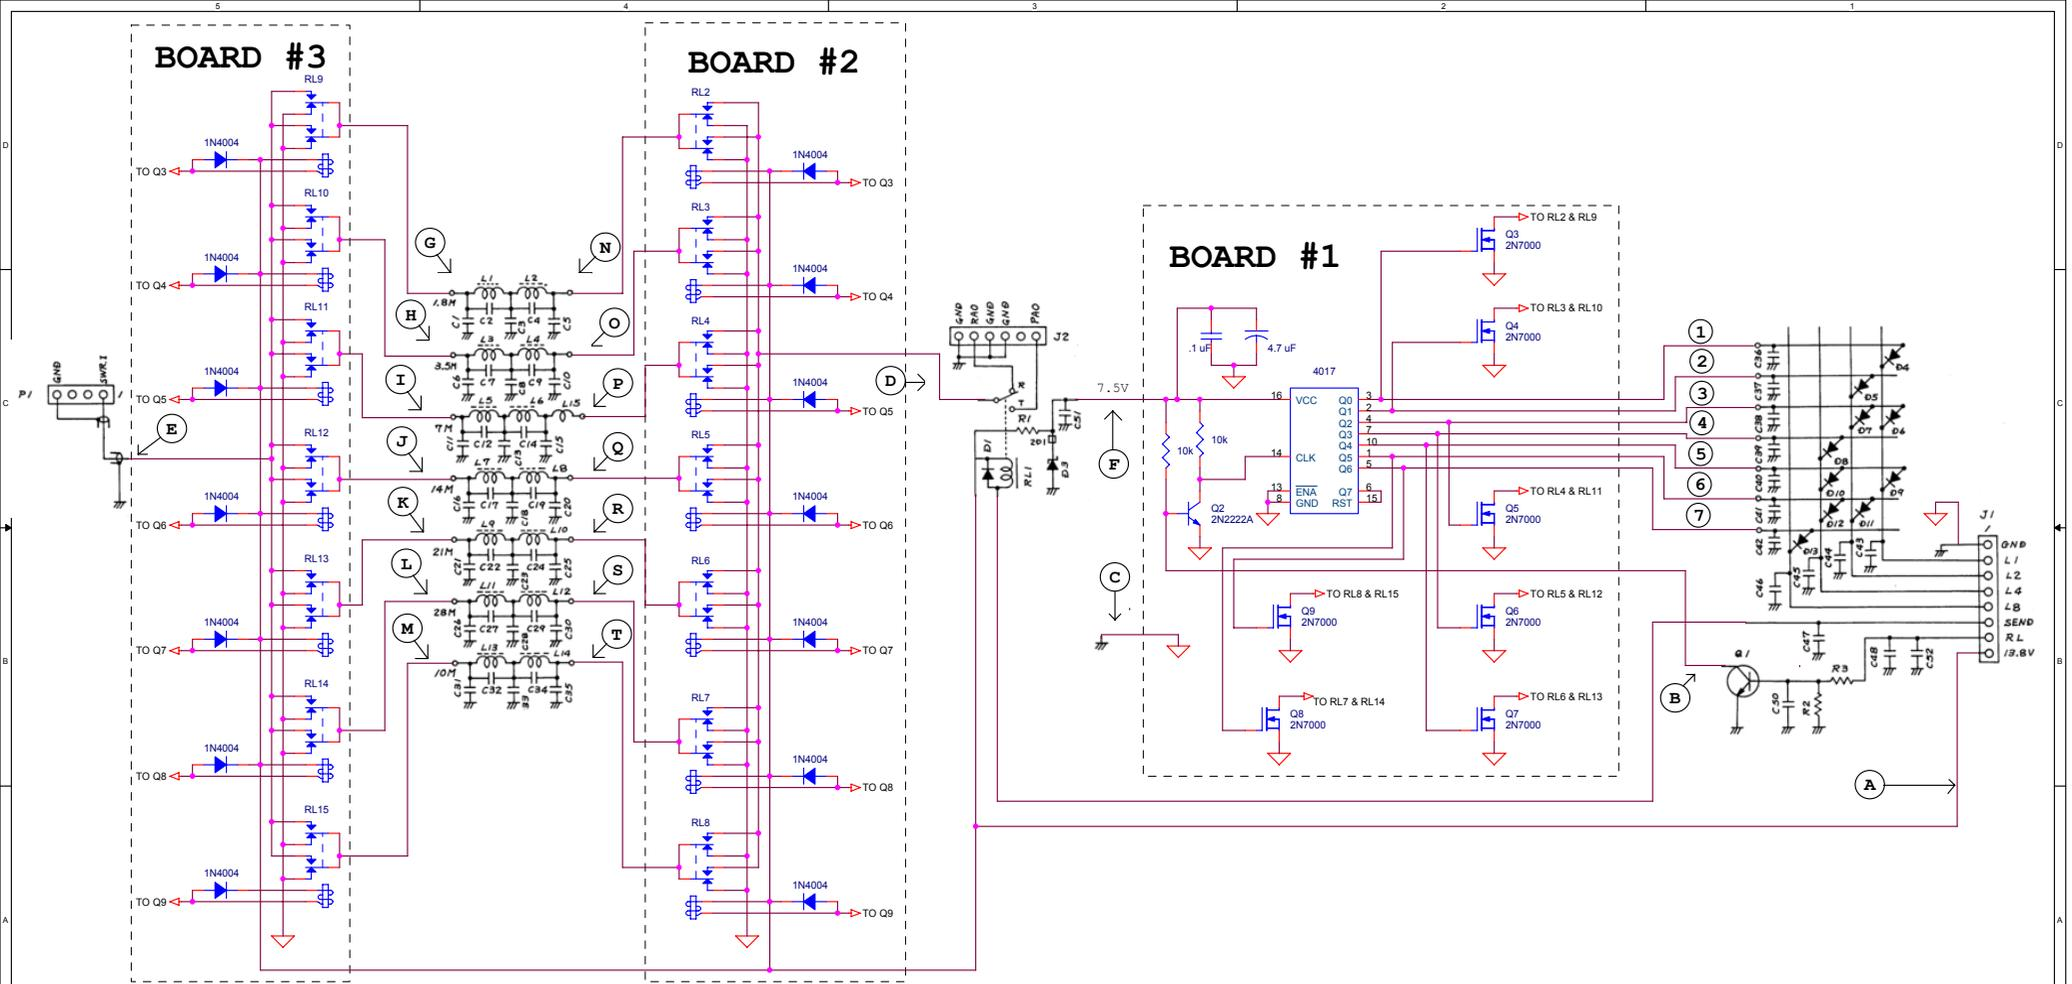
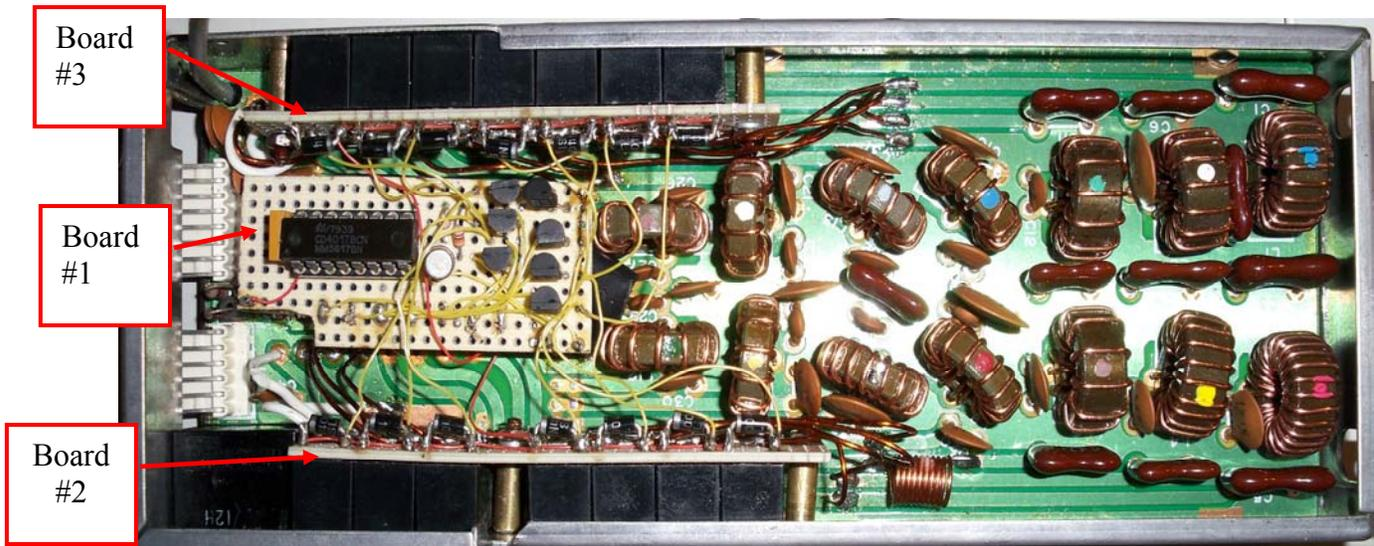
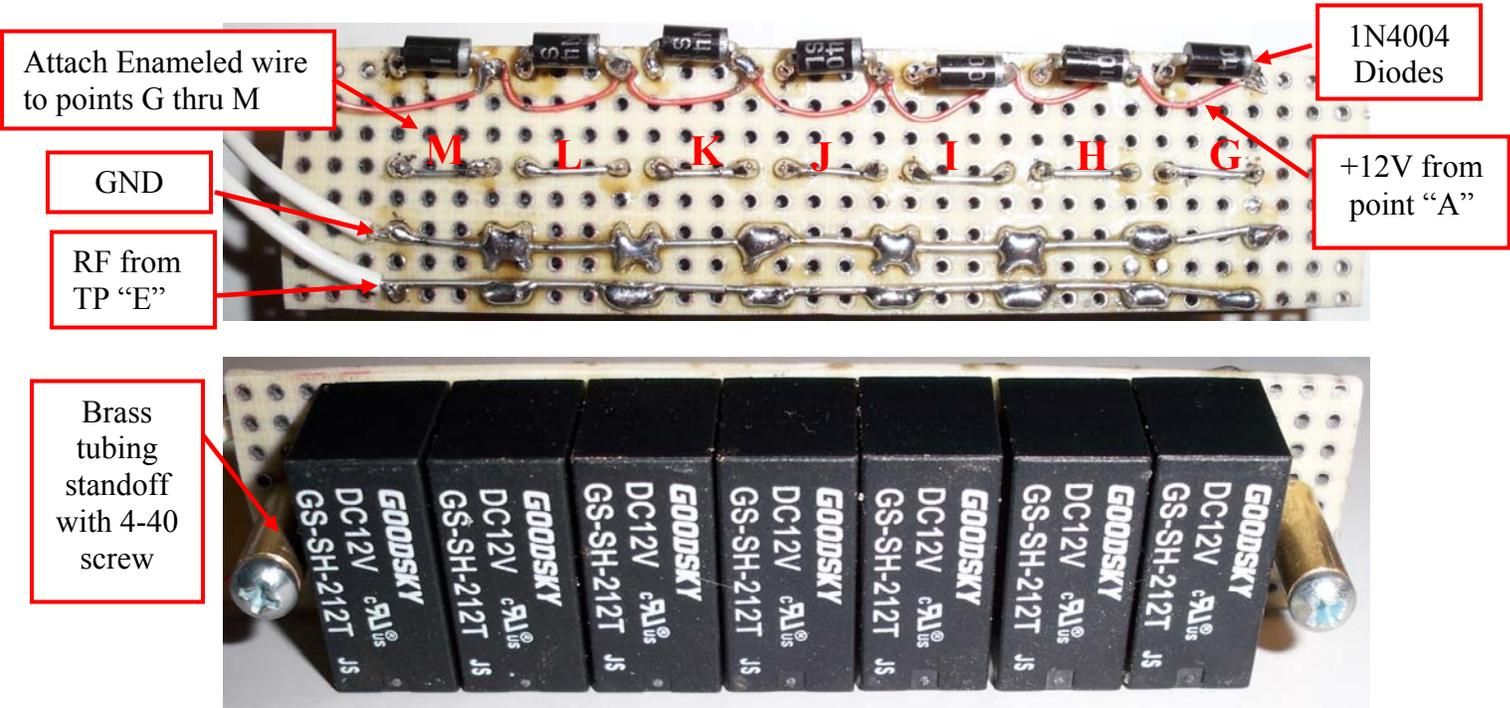

Figure 6. Schematic of completed filter module. Areas in dotted rectangles are added circuitry.
Figure 7. Completed filter project top view.
Figure 11. Front and back view of Board #3.
The complete schematic with the existing and additional circuitry is shown in Figure 6. The circuitry inside the dotted rectangles is the new circuitry. MOSFETs were used for the relay drivers instead of bipolar transistors. The reason for this is two-fold. First, there is a lower parts count because base resistors are not required. Second, the gates of the MOSFETs require negligible current, so the outputs of the 4017 are not loaded. This lack of loading means the voltage on the CMOS outputs are very close to the original 7.5 volts provided by the still used Zener regulated supply formed by R1 and D3.
The entire schematic of the completed project is shown in Figure 6. The circuitry inside the dotted rectangles is constructed for this project. The circuitry outside the dotted rectangles is the original Icom circuitry minus the components removed in steps 1 thru 3. Pictures of the final project are shown in Figures 7 and 8.
- 9) Construct Board #3. Refer to Figure 11 for details. Leave adequate room on the sides of the board for the mounting screws. Cut the brass tubing from the original relay to the width of the new relays. These are used as standoffs to retain the boards as shown in Figures 7 and 8. #4 screws fit perfectly inside of the tubing. Drill holes through the sides of the module as required to retain the board. Solder sections of enameled wire adequate to reach the proper destination on the circuit board. These enamel wires are not shown on Figure 11.
- 10) Place Board #3 inside the module as shown in Figures 7 and 8. This is a tight fit, so be careful. Attach all of the wires to the proper points on the PCB. This will require some planning before installation. In my case, the wires to Points E and M were toward the end of the module with the loose gray cable. Points L and K were soldered immediately in front of the board to the PCB below. Points G, H, I and J were soldered as shown in 12.
If the relays sound right when clicking, but there is low sensitivity in the receive and high collector current during transmit, either a relay is failing to key or some of the filter wiring is incorrect. Fortunately the low pass filters are DC shorts from input to output. The operation of the relays can be conducted with just J1 connected and the module out of the radio. For any given band, the proper connections can be tested for continuity between the "SWR1" pin of P1 and the "RA0" pin of J2. These points are clearly visible on the schematic on Figure 6. During proper operation, there should be low resistance continuity between those two pins.
Referring the schematic on Figure 6 and using the 1.8 MHz low pass filter as an example, Pin 3 of the 4017 should be high. This should produce a high L1 on J1, with L2, L4, and L8 all low. The high level on pin 3 of the 4017 should also turn on Q3, which in turn should drive the coil of RL2 and RL9 low. This should key both RL2 and RLY 9, resulting in continuity between SWR1 and RA0. If there is not, going from left to right on the schematic, there should be continuity between SWR1 and the enameled wire on relay 9. Continuing, there should be continuity between SWR1 and points G and N. Continuing, there should be continuity between SWR1 and the enameled wire on RL9. If the continuity is not present, either the relay is not keying, or the wiring is going to an incorrect relay.